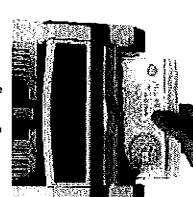

Figure 2
- Counting Function: Once the bills are correctly placed in the hopper, the machine will start counting automatically. The number of counted bills will be shown on the counter display. Moreover, once the bills are removed from the stacker, the counter display will clear and the batch display in turn will show the number of counted bills instead. Bills should be correctly placed as indicated in the following steps: Place the bills between the counting guides as shown in the figures and figure2. Swiftly push the bills with a figure<see figure3> to make them rest on the top of the hopper plate, in the correct counting position.